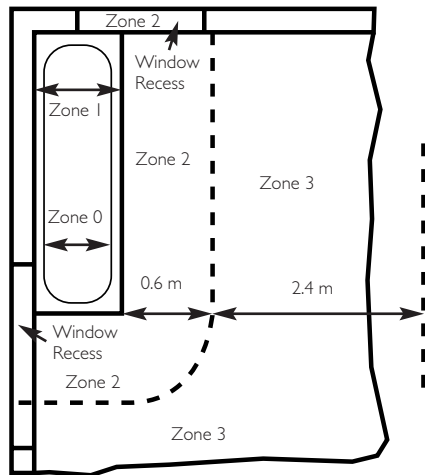

Fig. 11 In GB Only
1. If the boiler is fitted in a room containing a bath or shower and **NOT FITTED** with any optional integral timer or thermostat, it can be fitted in zone 2, (Figs. 11 & 12 shows zone dimensions for a bathtub. For other examples refer to Section 601 of the Current I.E.E. Wiring Regulations) reference must be made to the relevant requirements.